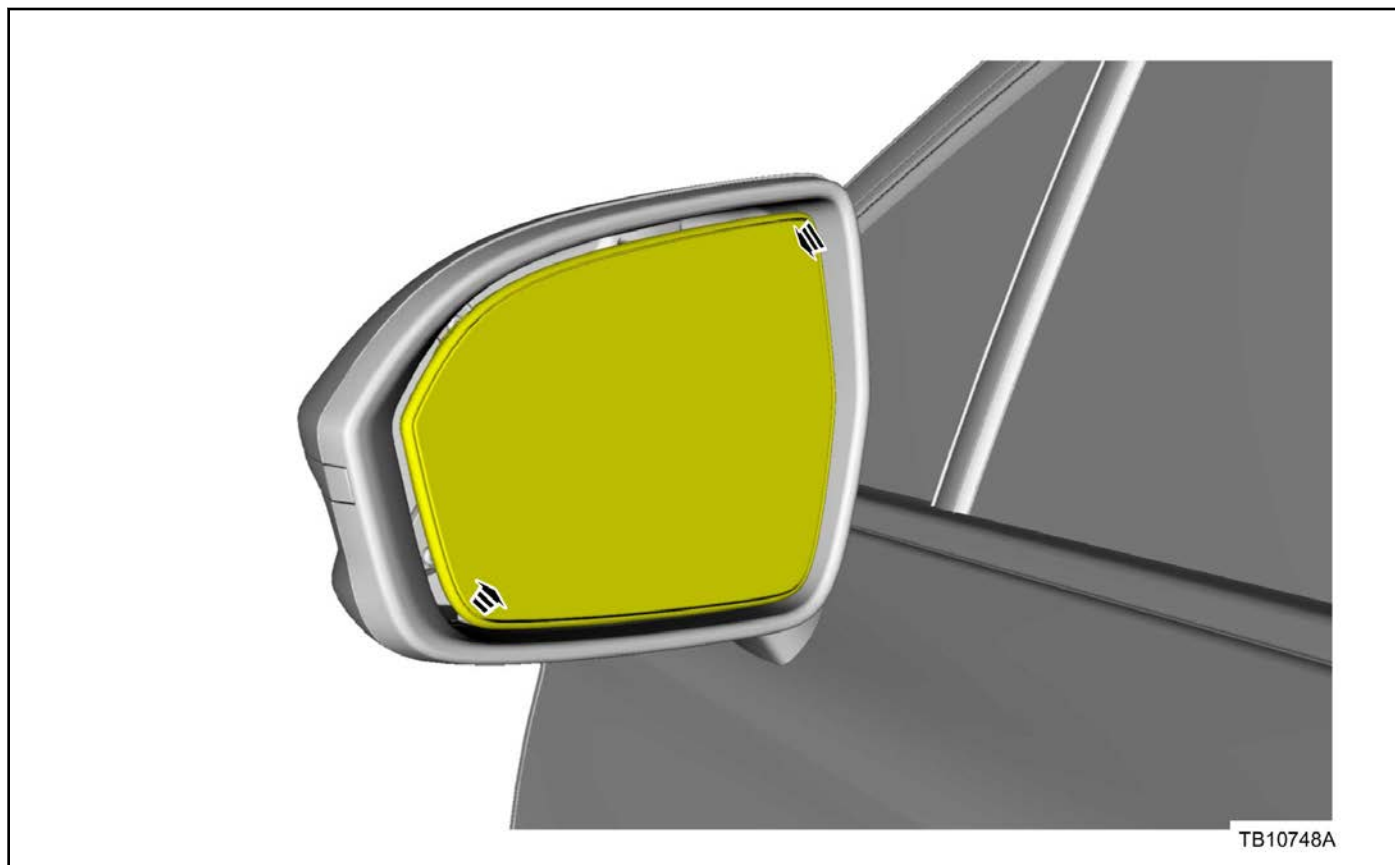

Figure 1 - Article 16-0058
1. Position the exterior mirror glass for access. (Figure 1)